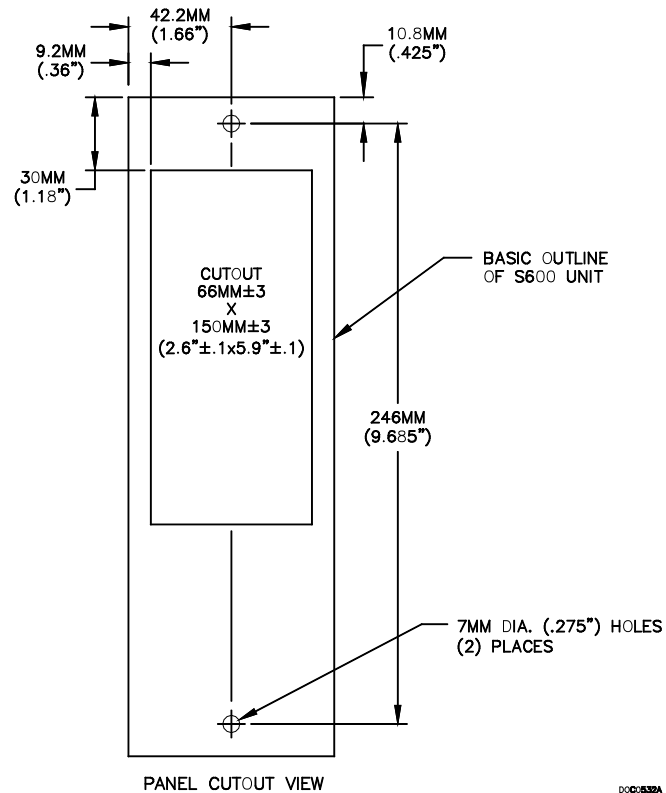

Figure 2-6. Panel Cutout Dimensions
2. Refer to *Figure 2-6* and *Table 2-1* for position details for two 7 mm (0.276 in) holes and a cutout. The panel cutout should be rectangular for each S600+. Allow a tolerance of ± 3 mm (0.12 in) on each axis.